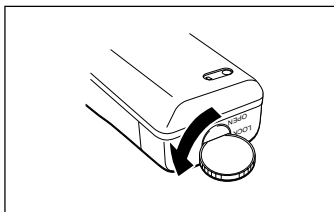

Figure 4. Turning the battery lock
3. Install the battery pack on the transceiver. (see figure 4 and section 5.2)